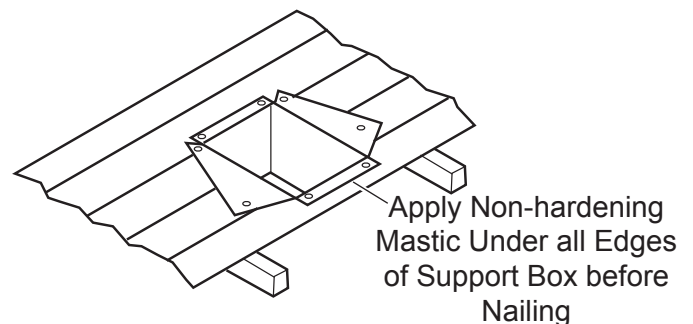

Figure 34 - Installed Cathedral Ceiling Support Box
4. Using tin snips, cut the support box from the top corners down to the roof line and fold the resulting flaps over the roof sheathing. *See Figure 34.* Apply a bead of non-hardening mastic around the top edges of the support box to make a seal between the box and the roof. Nail in place with roofing nails. Remove any combustible material that might be inside the support box.